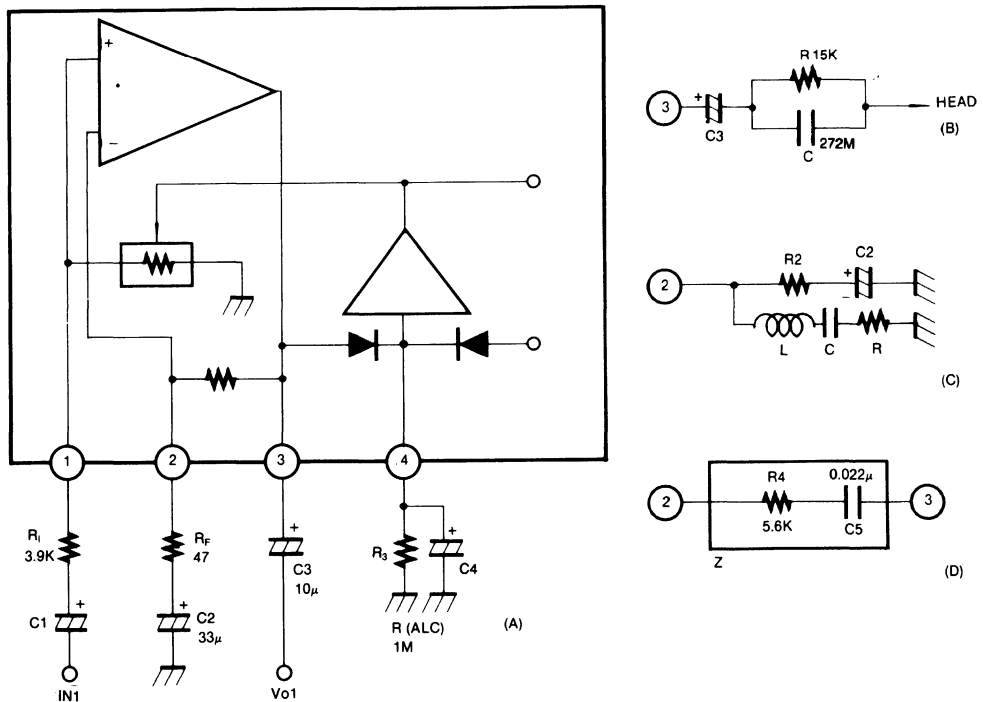

Fig. 3
2. Recording Amplifier (Figure 3 (A))
The recording amplifier requires a compensation circuit to correct loss at high frequencies. The compensation circuit may be either CR or LC resonance. The frequency response of the resonance circuit is fixed at 1~4KHz. An example using a CR is shown in Figure 3 (B), and one using LC resonance is shown in Figure 3 (C).